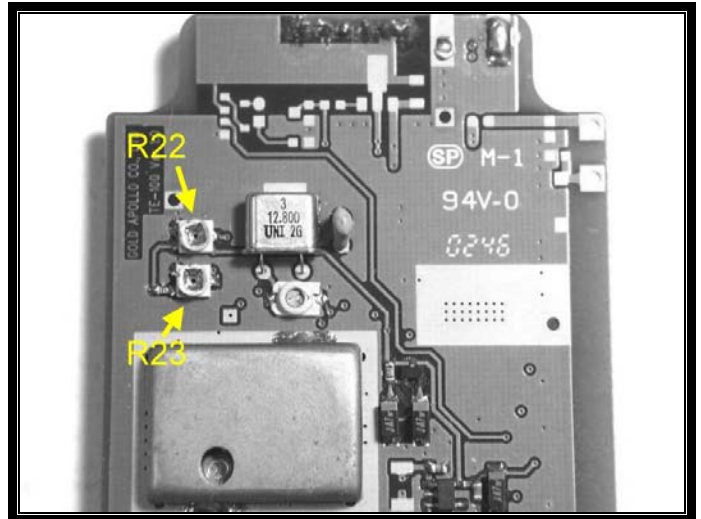

figure 2
3. Tuning R22 to set deviation to 4.0kHz(for 25kHz channel spacing) or 2.0kHz(for 12.5kHz channel spacing). Reference figure2 "R22 & R23 position"
5. Tuning R23 to set deviation waveform like a ideal square wave. Reference figure2 "R22 & R23 position"